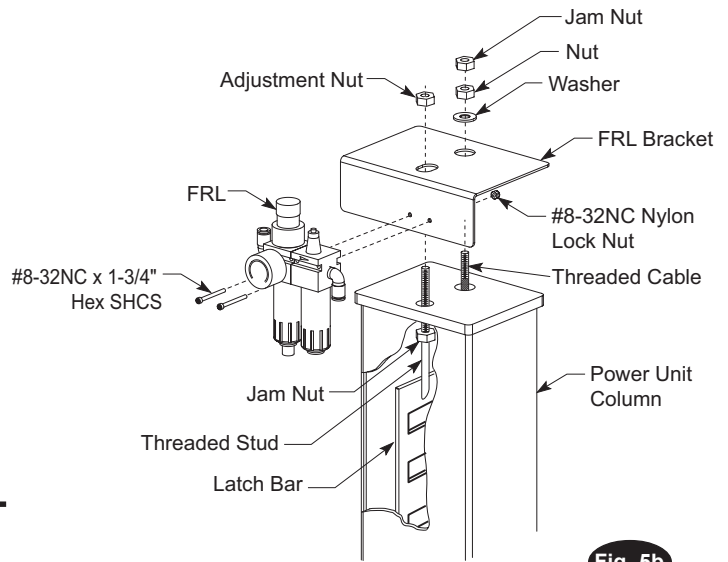

Fig. 5b
- C. Place FRL Bracket on top of power unit column. Guide the threaded stud through the hole in the column top plate and bracket, Fig. 5b. Then thread the adjustment nut down the threaded stud until the nut and top plate are flush, Fig. 5b. Repeat for other columns.